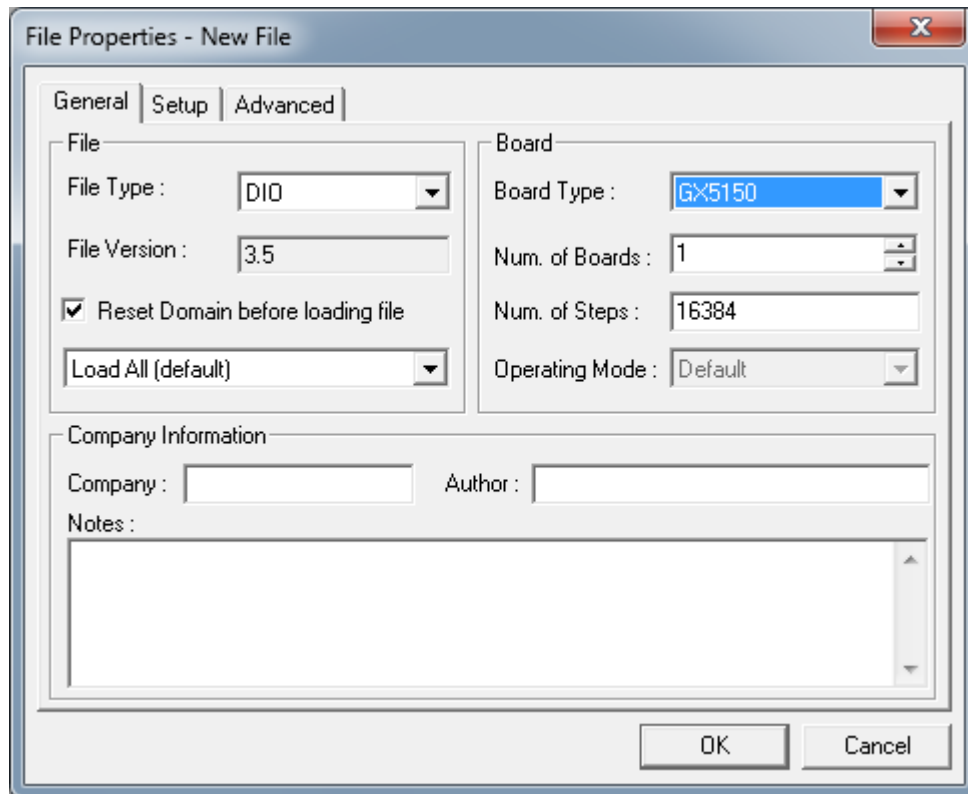

Figure 6-2: Creating a New DIO File
- Click on the File menu and then click on New. Dialog with the “Create a New File” caption appears. In the “Board Type” group selects GX5150 and unchecks the “Show File Property”. Make sure the fields in Figure 6-2 are entered and click OK.